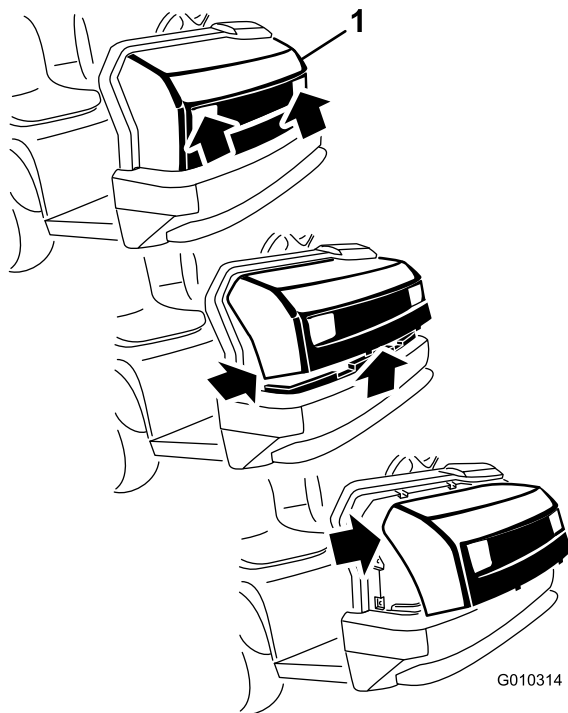

Figure 1
1. While grasping the hood in the headlight openings, lift up on the hood to release the lower mounting tabs from the slots in the bumper (Figure 1).
2. Pivot the bottom of the hood upward until the top mounting tabs can be pulled from the frame slots (Figure 1).
3. Pivot the top of hood forward and unplug the wire connectors from the head lights (Figure 1).